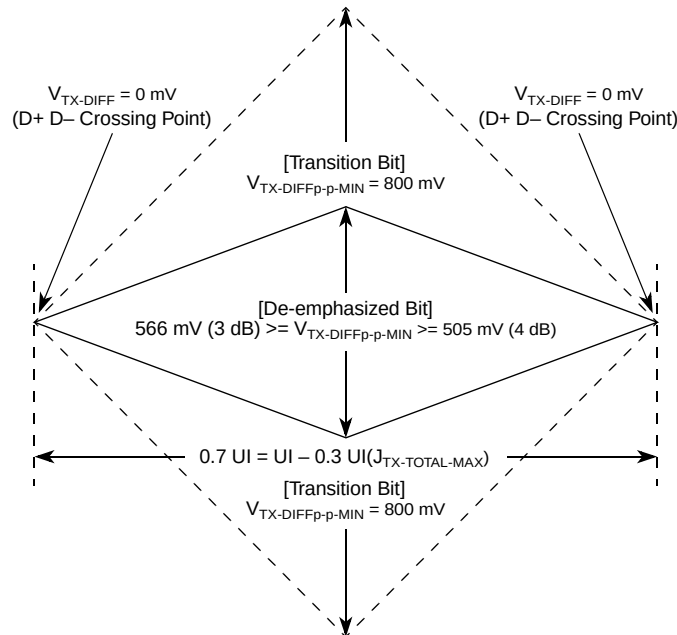
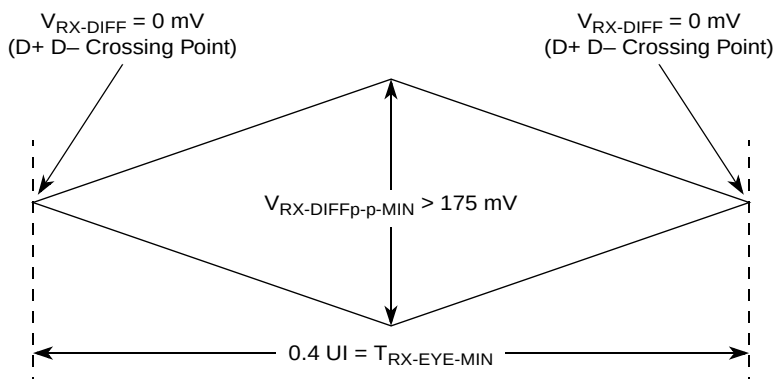
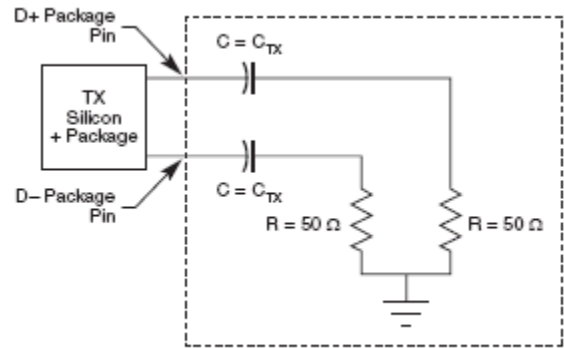

Figure 49. Minimum Transmitter Timing and Voltage Output Compliance Specifications
Figure 50. Minimum Receiver Eye Timing and Voltage Compliance Specification
Figure 51. Compliance Test/Measurement Load
2. Specified at the measurement point into a timing and voltage compliance test load as shown in Figure 51 and measured over any 250 consecutive TX UIs. (Also refer to the transmitter compliance eye diagram shown in Figure 49.)
4. The transmitter input impedance shall result in a differential return loss greater than or equal to 12 dB and a common mode return loss greater than or equal to 6 dB over a frequency range of 50 MHz to 1.25 GHz. This input impedance requirement applies to all valid input levels. The reference impedance for return loss measurements is 50  $\Omega$  to ground for both the D+ and D- line (that is, as measured by a vector network analyzer with 50- $\Omega$  probes, see Figure 51). Note that the series capacitors,  $C_{TX}$ , is optional for the return loss measurement.
5. Measured between 20%–80% at transmitter package pins into a test load as shown in Figure 51 for both  $V_{TX-D+}$  and  $V_{TX-D-}$ .
The TX eye diagram in Figure 49 is specified using the passive compliance/test measurement load (see Figure 51) in place of any real PCI Express interconnect + RX component. There are two eye diagrams that must be met for the transmitter. Both diagrams must be aligned in time using the jitter median to locate the center of the eye diagram. The different eye diagrams differ in voltage depending on whether it is a transition bit or a de-emphasized bit. The exact reduced voltage level of the de-emphasized bit is always relative to the transition bit.
2. Specified at the measurement point and measured over any 250 consecutive UIs. The test load in Figure 51 should be used as the RX device when taking measurements (also refer to the receiver compliance eye diagram shown in Figure 50). If the clocks to the RX and TX are not derived from the same reference clock, the TX UI recovered from 3500 consecutive UI must be used as a reference for the eye diagram.
4. The receiver input impedance shall result in a differential return loss greater than or equal to 15 dB with the D+ line biased to 300 mV and the D- line biased to -300 mV and a common mode return loss greater than or equal to 6 dB (no bias required) over a frequency range of 50 MHz to 1.25 GHz. This input impedance requirement applies to all valid input levels. The reference impedance for return loss measurements for is 50  $\Omega$  to ground for both the D+ and D- line (that is, as measured by a vector network analyzer with 50- $\Omega$  probes, see Figure 51). Note that the series capacitors,  $C_{TX}$ , is optional for the return loss measurement.
The RX eye diagram in Figure 50 is specified using the passive compliance/test measurement load (see Figure 51) in place of any real PCI Express RX component. In general, the minimum receiver eye diagram measured with the compliance/test measurement load (see Figure 51) is larger than the minimum receiver eye diagram measured over a range of systems at the input receiver of any real PCI Express component. The degraded eye diagram at the input Receiver is due to traces internal to the package as well as silicon parasitic characteristics which cause the real PCI Express component to vary in impedance from the compliance/test measurement load. The input receiver eye diagram is implementation specific and is not specified. RX component designer should provide additional margin to adequately compensate for the degraded minimum Receiver eye diagram (shown in Figure 50) expected at the input receiver based on an adequate combination of system simulations and the return loss measured looking into the RX package and silicon. The RX eye diagram must be aligned in time using the jitter median to locate the center of the eye diagram.
The reference impedance for return loss measurements is 50  $\Omega$  to ground for both the D+ and D- line (that is, as measured by a Vector Network Analyzer with 50  $\Omega$  probes—see Figure 51). Note that the series capacitors,  $C_{PEACCTX}$ , are optional for the return loss measurement.
The AC timing and voltage parameters must be verified at the measurement point, as specified within 0.2 inches of the package pins, into a test/measurement load shown in Figure 51.